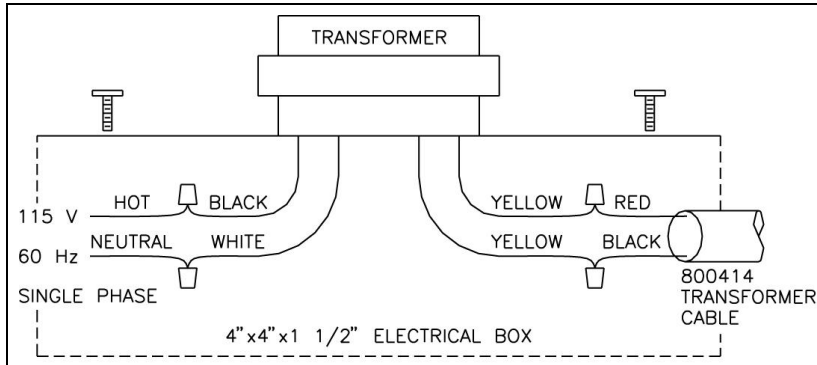

Figure 8: Transformer Installation
3. Connect 115 VAC line voltage HOT wire to BLACK wire on transformer and NEUTRAL wire to WHITE wire on transformer (Figure 8).